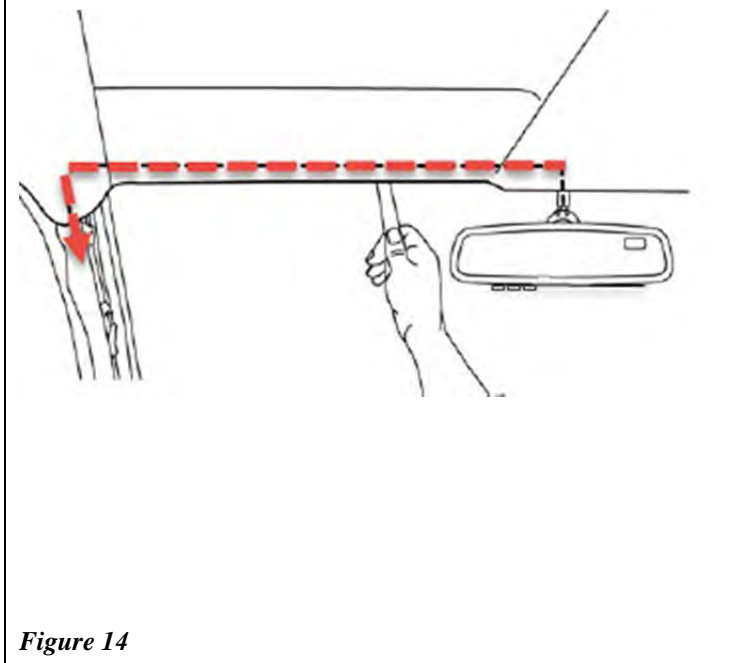

Figure 14
14. Route mirror main power harness along front edge of headliner towards the LH vehicle A-Pillar. See figure 14.